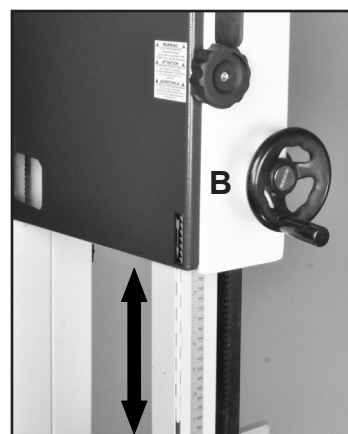

FIGURE 29
1. Loosen the Guidepost Lock Knob (#1C, Fig. 30A) and turn the Guidepost Handle (#38C, Fig. 29, B) to raise or lower the guide post/upper blade guide assembly to the desired height.